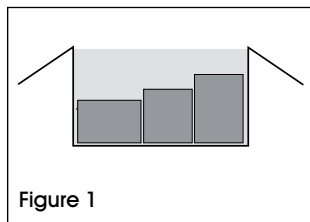

Figure 1
1. Group the contents in the box. (See Figure 1)